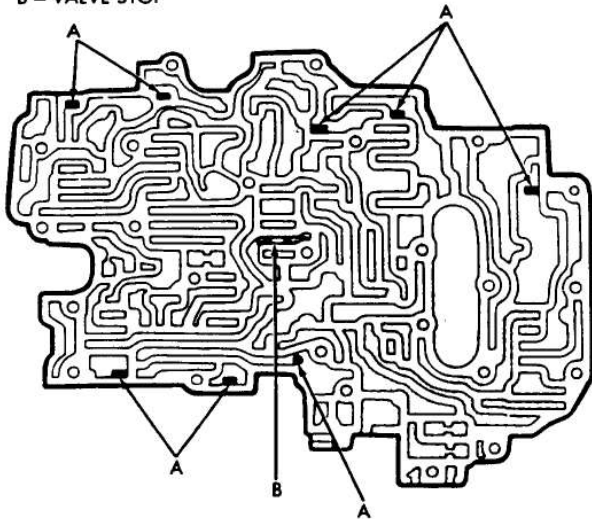

Fig. 15 Valve Retainer And Stop Locations
(1) Lubricate the valves, springs, plugs, sleeves and the valve bores in the upper body with automatic transmission fluid.
(2) Note position of the valve retainers (A) and stop (B) for assembly reference (Fig. 15).